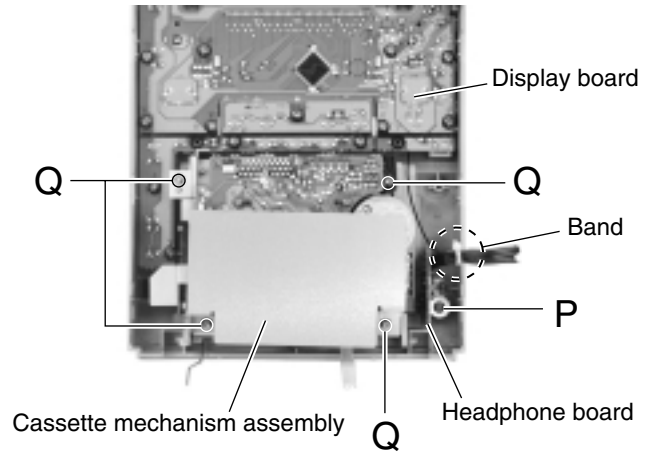

Fig.29
(See Fig.29)**
**■ Removing the cassette mechanism assembly (See Fig.29 and 30)**